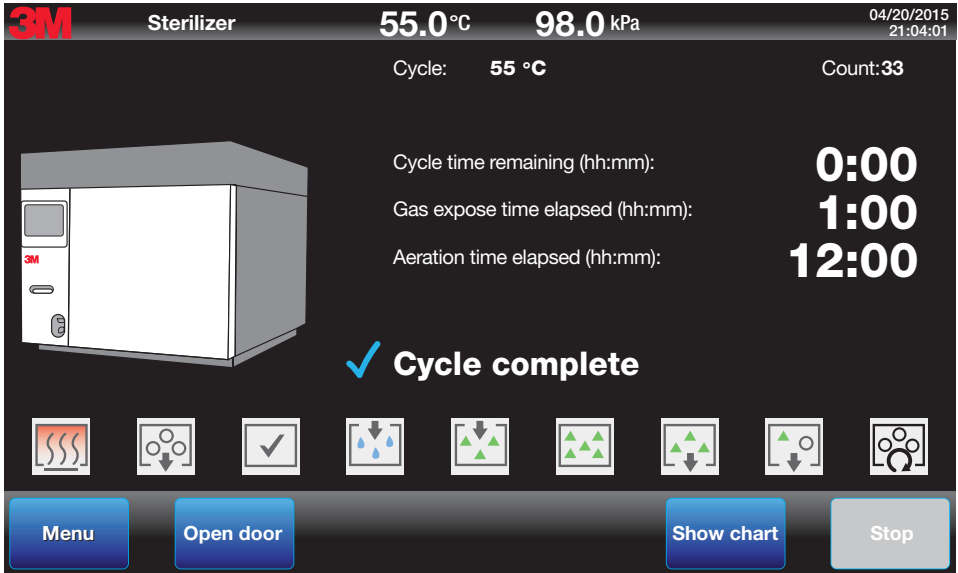

Figure 57.
1. Press the **Open Door** button on the touch screen (Figure 57). On double door units, press the **Open Unload Door** button. The Load Door cannot be opened after the cycle has successfully completed on double door units.